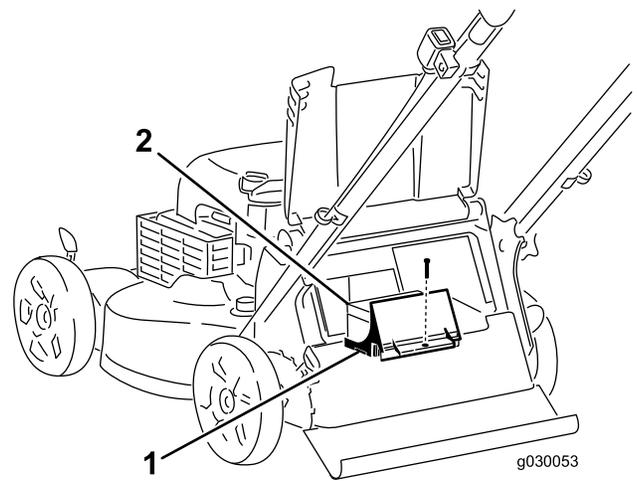

**Figure 39**
- Remove the screw that secures the battery compartment, pull out the battery, and locate the fuse (Figure 38 and Figure 39).
- Replace the fuse in the fuse holder (Figure 39).